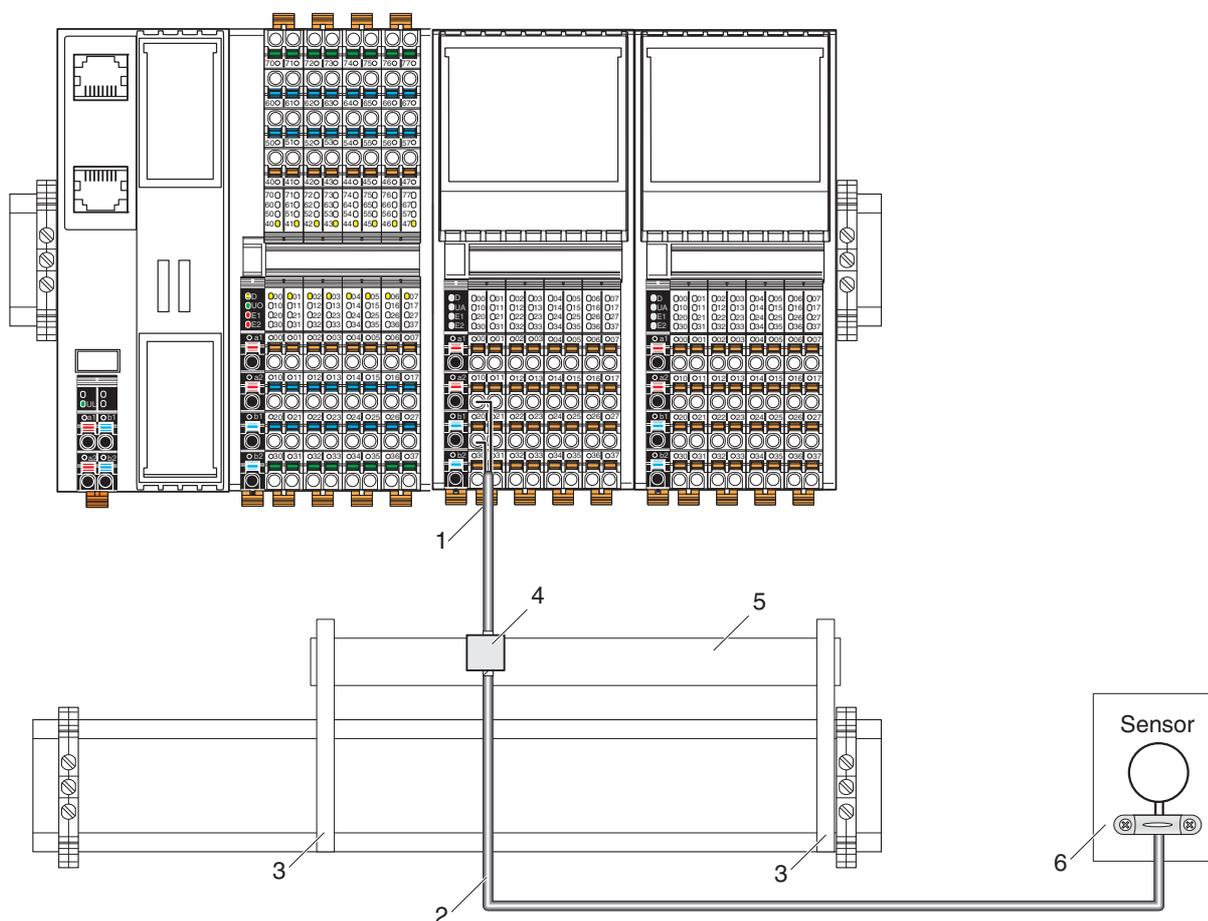
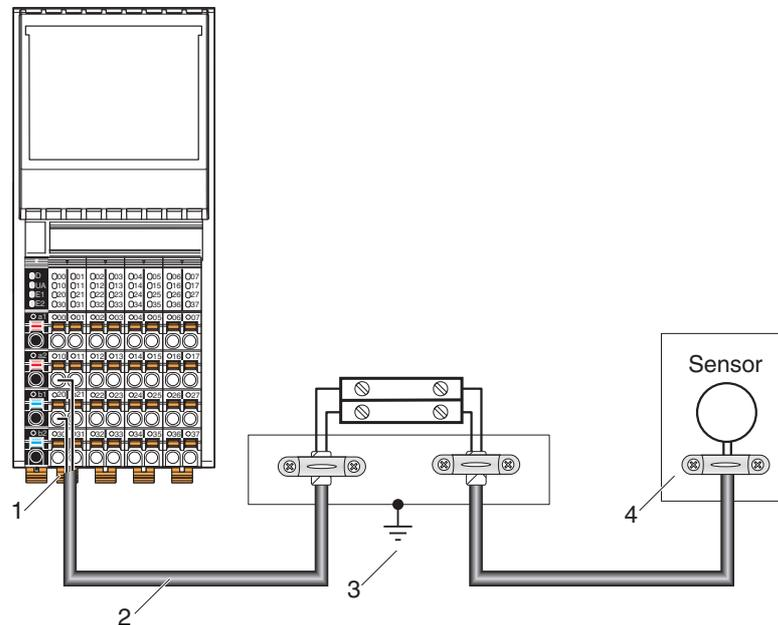

Fig. 8-9 Connecting the shielding to a busbar
Fig. 8-10 Integration of analog shielding in a concept with central equipotential bonding at the control cabinet entry
- Connect the shield via a shield bus. (see Fig. 8-9)
- As a rule, shielding must only be connected directly to the PE potential on one side. This is to prevent any occurrence of equipotential bonding currents via the shielding (see Fig. 8-9 and Fig. 8-10).
- If necessary, integrate the shielding concept for analog I/O cables in the system concept. For example, it is advisable to use a central FE shield connection at the control cabinet entry (see Fig. 8-10).